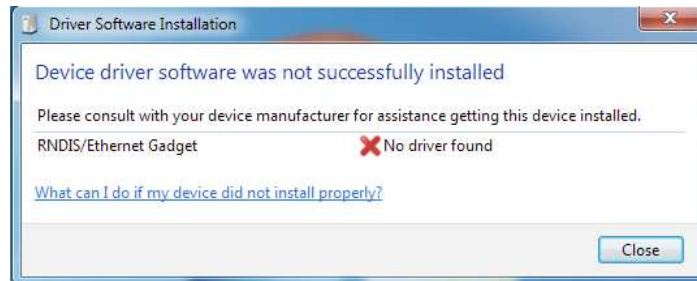

Figure 2-5. Windows 7 Driver Software Installation Window
1. The "Driver Software Installation" dialog should appear. Windows 7 will try to automatically download the driver and fail. A message indicating that the "device driver software was not successfully installed" is displayed. See Figure 2-5.